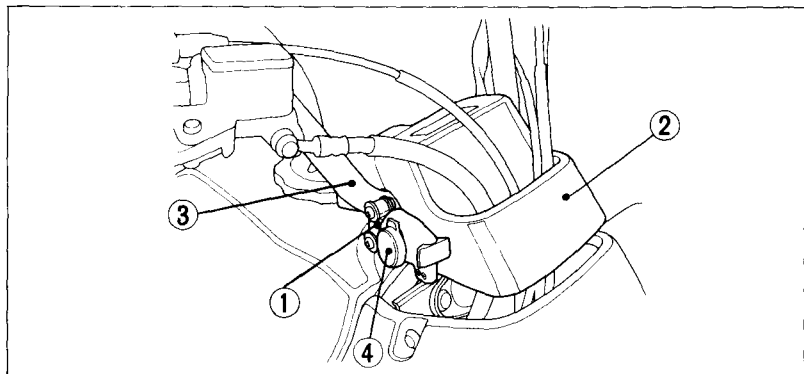

Fig. 2-24
The DC receptacle (1) (Fig. 2-24) is attached to the right handlebar, near the handlebar cover (2). The receptacle provides 12 V DC power at a maximum of 180 watts (15 amps). If you exceed this limit, you may blow the fuse. (For information on fuses, and how to replace a fuse, see pages 113–114.)
(1) 12 V DC receptacle
(2) Handlebar cover
(3) Right handlebar
(4) Special DC plug
Electrical accessories may be connected to the receptacle by using the special DC plug (4) (Fig. 2-24) that comes attached to the receptacle. Be sure to use only accessories that are designed for 12 V DC power.
1. Remove the plug (4) from the receptacle (1) (Fig. 2-24).